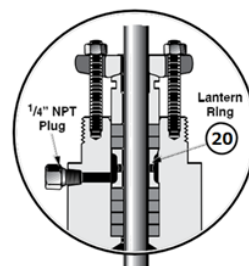

Figure 4 - Lubricator Connection (Optional)
- Q. If a leak detection connection was installed, connect it on the lateral NPT port in the bonnet. If not, ensure that the 1/4" NPT plug remained in place (Figure 4). Install packing flange stud nuts (3).